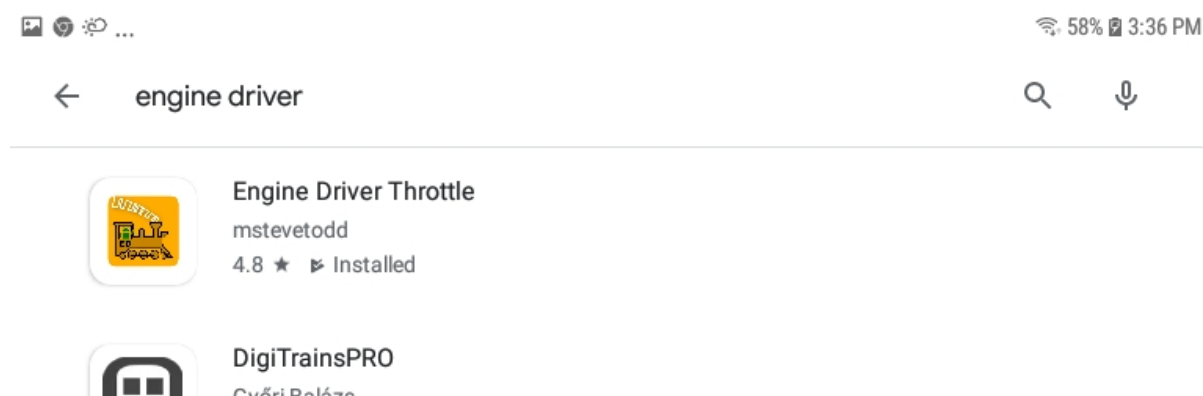

Figure 11 Searching for the Engine Driver app in Google Play Store
- (1) On your Android phone or tablet, make sure you are connected to the internet and run the Google Play Store app from the home screen:
- (2) Search for Engine Driver by M. Steve Todd, download and install it. To do this:
- b. Type “Engine Driver” into the text box and click the Search button, make sure the correct app “Engine Driver Throttle” displays as in Figure 11,
- c. Tap on the “Engine Driver Throttle app” (Figure 11). The app detail page displays.